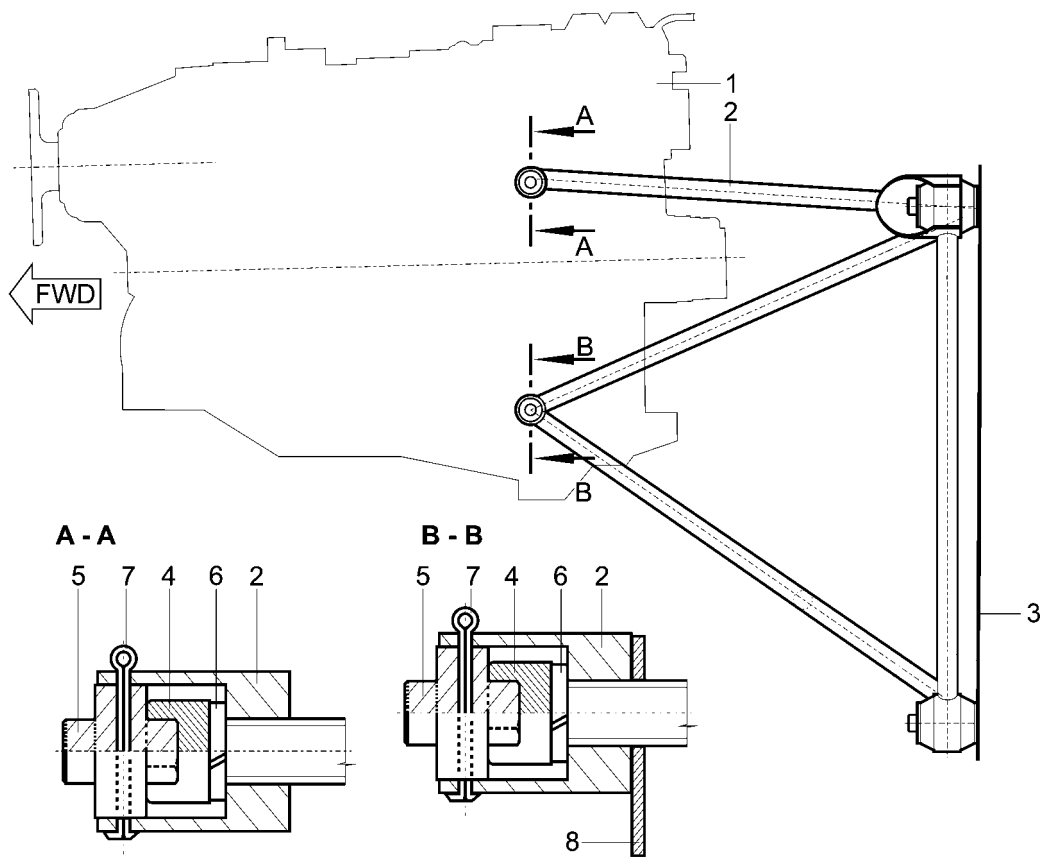

Fig. 3 – Engine suspension
- 1.3.1.10 Remove the cotter pins and plugs (5, 7, Fig. 3) from the bolts (1, 2, 3, 4, Fig. 2) in the joint of the engine and the engine mount hinges.
- 1.3.1.16 Put the plugs (5, Fig.3) on the bolts (4), (1,2,3,4, Fig.2).
- 1.3.1.17 Mark the plugs (5, Fig. 3) with a marking pin in accordance with the holes in the engine mount hinges (2) on both sides.
- 1.3.1.26 Refill the operating fluids (coolant, oil) according to the ROTAX Maintenance Manual MML-912 | PART NO.: 899196 or later if they have been drained while accessing the bolts of the engine mount hinges (4, Fig. 3).
Legend to Fig. 3